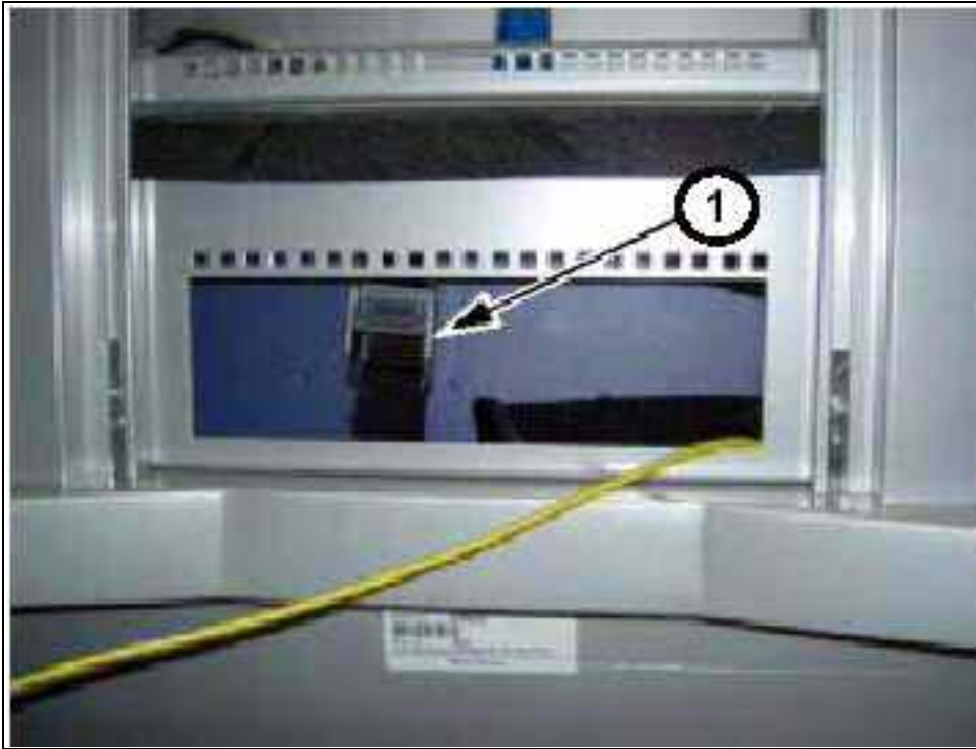

Fig. 31: Replacing the UPS_2
3. Loosen the tension band (1/Fig. 31 / p. 60) and remove the UPS from the monitor trolley. Side covering was already removed in (Fig. 31 / p. 60).